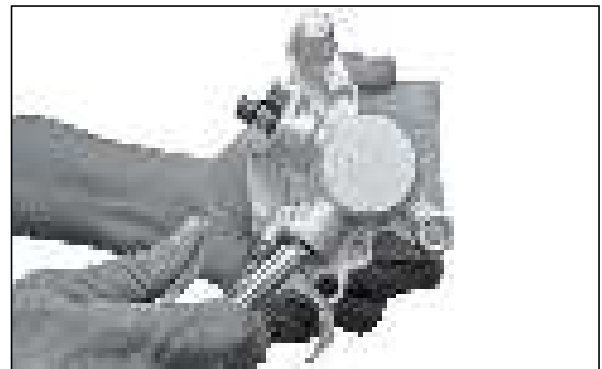

Fig. 6.125
- Insert a spacer between piston caliper and the caliper housing (at pad position) and then apply compressed air through the inlet port of the caliper to slide pistons out. (Fig. 6.125)